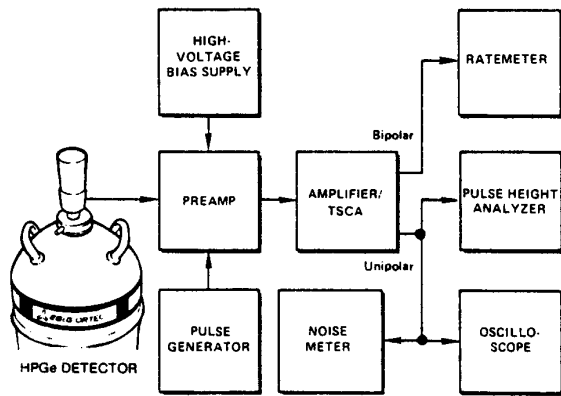

Fig. 4.10. System for High-Resolution Gamma Spectroscopy.
**HIGH-RESOLUTION GAMMA SPECTROSCOPY SYSTEM** A high-resolution gamma spectroscopy system block diagram is shown in Fig. 4.10. Although a biased amplifier is not shown (an analyzer with more channels being preferred), it can be used if the only analyzer available has fewer channels and only higher energies are of interest.